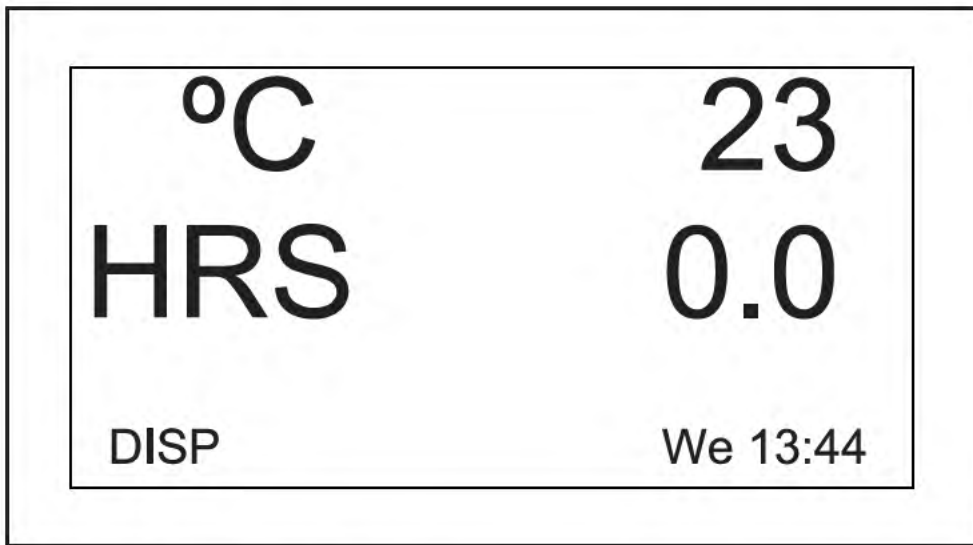

Fig. 9-2: Changed display parameter
4. Click the knob in to set and save the parameter (see Fig. 9-2 on p. 51).